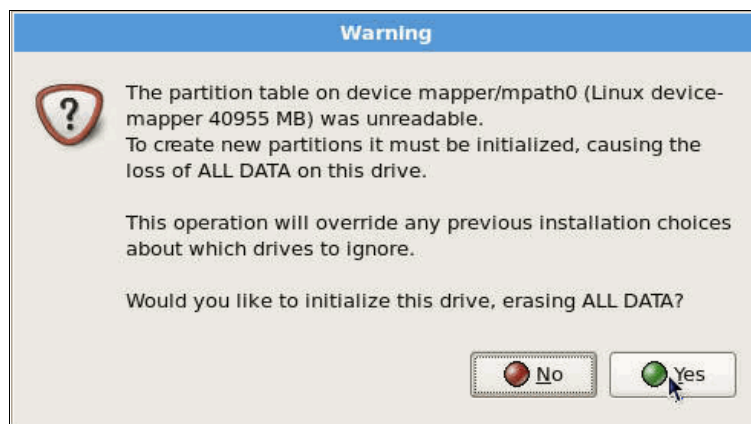

Figure 3-68 Formatting the LUN
12. When performing the installation for the first time, Red Hat will ask you to format your disk to prepare that for multipath. That is the last opportunity to check if you are using the correct LUNs. After confirmation, the LUN will be formatted as shown in Figure 3-68.